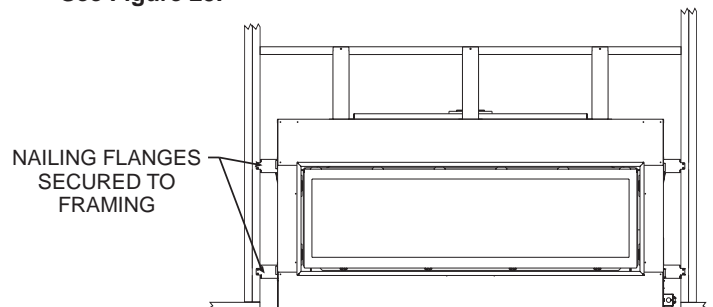

Figure 25
5. Secure fireplace to framing with nailing flanges. Preset depth to suit facing material (flush or 1/2 inch set back depths). **See Figure 25**.